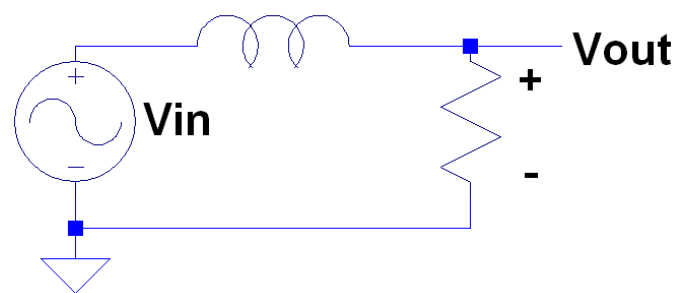

Figure 5.2: Pre-lab Circuit B
2. What is the final equation for V_{out} in figure 5.2 and sketch V_{out} vs. Frequency.